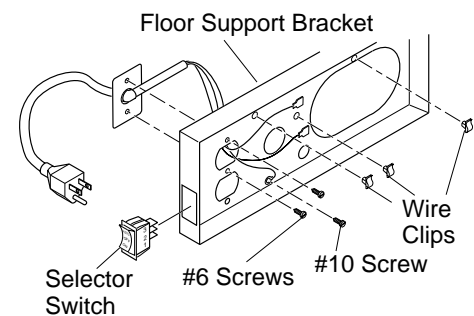

Figure 15 - Installing Power Cord, Mounting Plate, and Selector Switch
3. Route terminal end of power cord through large hole near top of left floor support bracket. Make sure to pass the cord from the outside (left side) towards the center of firebox (see Figure 15).
4. Using two #6 screws provided attach power cord mounting plate to the outside face of left floor support bracket. Drive screws from inside (right side) of floor support bracket. Attach the plate so that the power cord is directed towards rear of firebox (see Figure 15). Tighten screws firmly.
8. Mount selector switch to front flange of left floor support bracket. Align graphics on switch upright and push firmly to snap switch into rectangular hole. Push the selector switch to the off (middle) position (see Figure 15).
9. Install three plastic wire clips provided into floor support bracket (see Figure 15). Secure by pushing clips firmly into holes.
10. Attach green ground wire ring terminal to floor support bracket using #10 sheet metal grounding screw provided (see Figure 15). Tighten screw firmly.